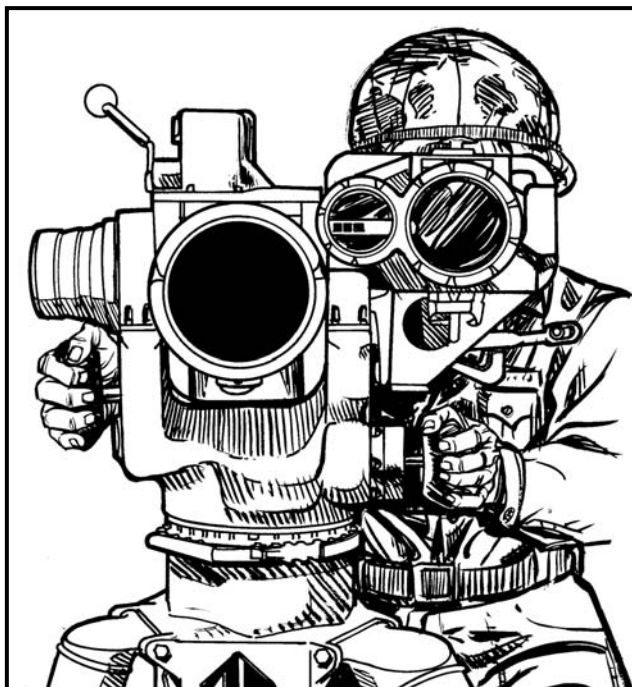

Figure 5-10. Control knobs.
a. Position the eye well into the rubber eyepiece and place both hands firmly on the control knobs (Figure 5-10). Place the body so there is no contact between the shoulder and the encased missile. The only contact with the launcher is with the hands and eye. Assume a firing position that is comfortable. An uncomfortable position causes muscle tension, which affects the ability to track smoothly.